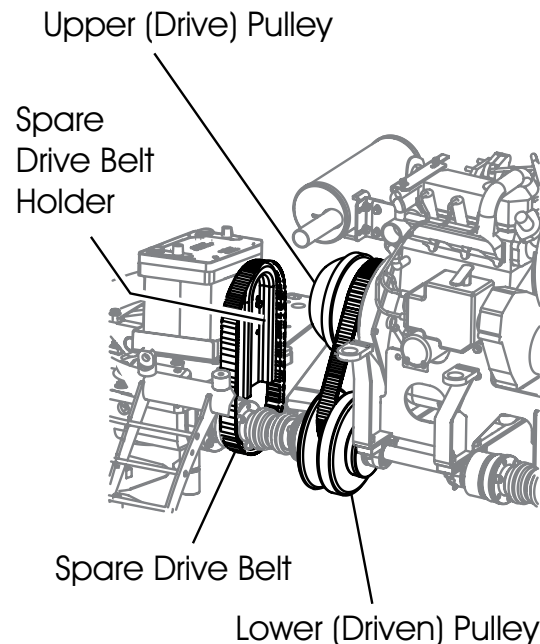
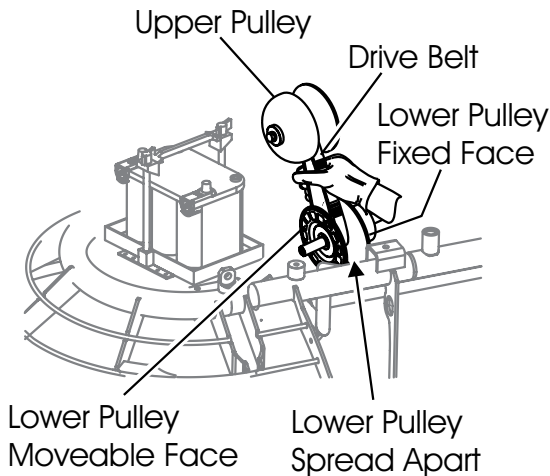

Figure 17. Drive Belt, Belt Holder and Pulleys
Figure 18. Expanding Lower Drive Pulley
1. Remove Left-side End Grate and open Left "Clamshell" (see Figure 4) to gain access to Drive Belt, Spare Drive Belt, and Pulleys (Figure 17) Squeeze the drive belt as shown in Figure 18, and pull the V-belt upwards. This will spread open the faces of the lower drive pulley.